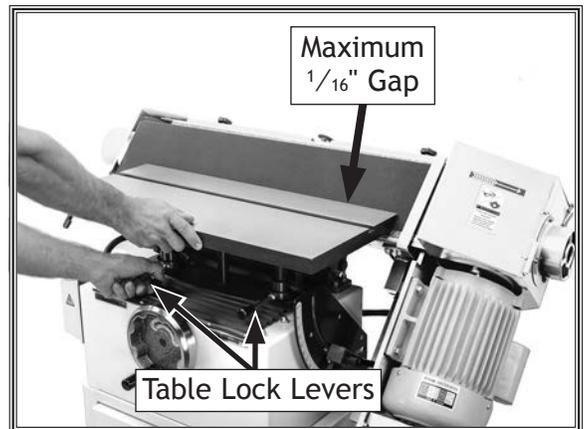

Figure 20. Horizontal table adjustment.
2. Push or pull table until there is a gap of no more than $\frac{1}{16}$ " from sanding belt, as shown in **Figure 20**.